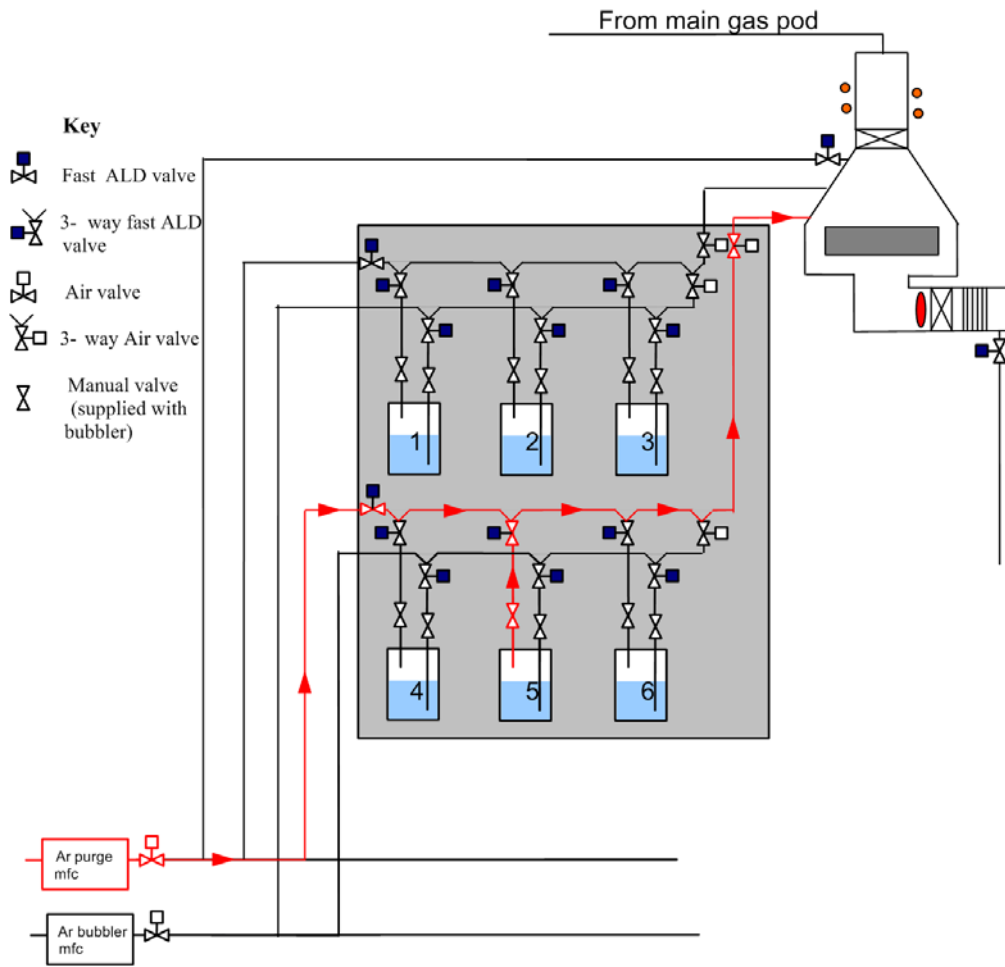

Figure 5-39 Schematic showing vapour draw mode of operation
- 8 Run the process with a flow of argon set on the argon purge MFC, and no flow on the argon bubbler MFC (see Figure 5-39).